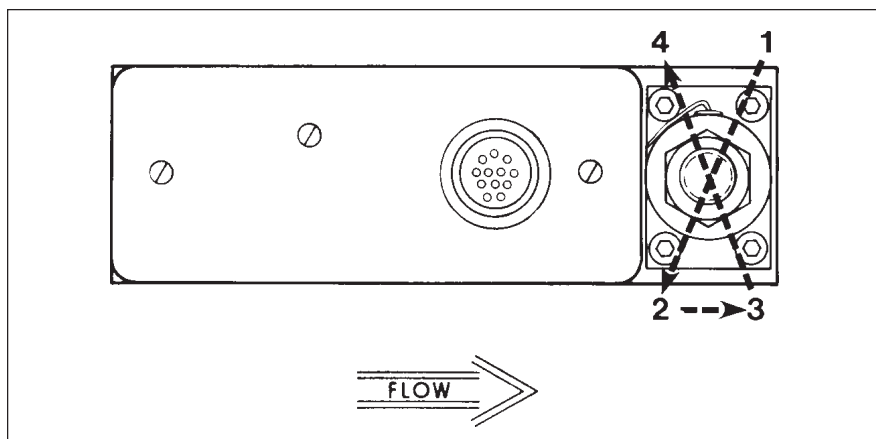

Figure 4-1 Torque Sequence for the Valve Retainer Plate
5. Press the lubricated sensor O-rings (17) into the flow controller body (14). Install the sensor assembly and secure with two allen nuts (18) and washers (19). Tighten to 10 inch/lbs.
6. Install the orifice (12) and its O-rings (13) using the orifice removal tool. Insure that the orifice is fully seated but do not overtighten.
7. Insert the valve preload spacers(10), if used, into the valve cavity in the flow controller body (14). Use care to preserve the correct order.
8. Install the valve plunger assembly (7,8,9,11) on the preload spacers (10). Install air gap spacers (10), if used, on top of the valve springs.
9. Install the valve stem assembly (6), secure with the valve retaining plate (4) and four hex socket screws (3). When installing the screws, they should first make light contact with the plate, which should be checked to insure that it makes full contact around the stem assembly. Torque the screws securing the valve retaining plate in a diagonal pattern (Refer to Figure 4-1) to 17 inch/lbs.
10. Install the coil assembly (2) over the valve stem assembly (6) and secure with jam nut (1).
11. Install the electronics module (15), secure with two sockethead screws (25) and the two external tooth washers (25A). Plug the connector from the sensor assembly onto the PC board. The flow arrow on the connector should be pointing towards the valve assembly.
12. Plug the connector from the valve coil into the PC board through the hole in the electronics cover. Install the electronics cover (23) on the controller, secure with two screws (20) and the two lock washers (20A).